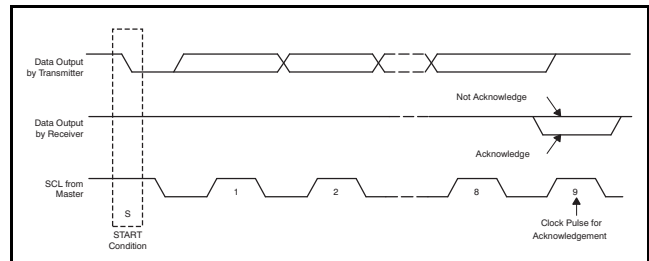
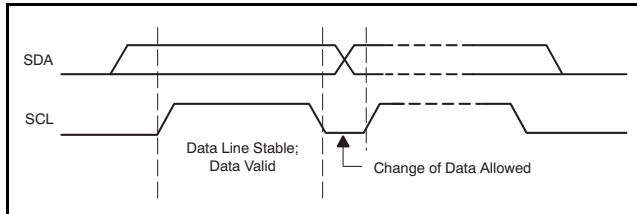

Figure 114. Acknowledge and Not Acknowledge Signals on the I2C Bus
Figure 115. I2C Bus Bit Transfer
Other than specific timing signals, the I2C interface works with serial bytes. At the end of each byte, a ninth clock cycle is used to generate/detect an acknowledge signal, as shown in Figure 114. An *acknowledge* is when the SDA line is pulled low during the high period of the ninth clock cycle. A *not-acknowledge* is when the SDA line is left high during the high period of the ninth clock cycle.
- The master initiates data transfer by generating a start condition, defined as when a high-to-low transition occurs on the SDA line while SCL is high, as shown in Figure 114. All I2C-compatible devices recognize a start condition.
- The master then generates the SCL pulses, and transmits the 7-bit address and the read/write direction bit ( $R/\bar{W}$ ) on the SDA line. During all transmissions, the master ensures that data are valid. A valid data condition requires the SDA line to be stable during the entire high period of the clock pulse, as shown in Figure 115. All devices recognize the address sent by the master and compare it to the internal fixed addresses. Only the slave device with a matching address generates an acknowledge by pulling the SDA line low during the entire high period of the ninth SCL cycle, as shown in Figure 114. Upon detecting this acknowledge, the master recognizes the communication link with a slave has been established.
- To signal the end of the data transfer, the master generates a stop condition by pulling the SDA line from low to high while the SCL line is high (see Figure 115). This action releases the bus and stops the communication link with the addressed